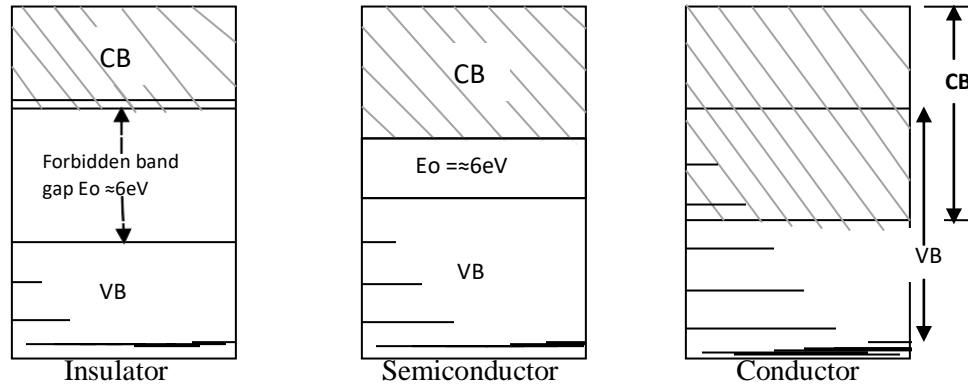

FIG:1.1 Energy band diagrams insulator, semiconductor and conductor
**Insulator:** An insulator is a material that offers a very low level (or negligible) of conductivity when voltage is applied. Eg: Paper, Mica, glass, quartz. Typical resistivity level of an insulator is of the order of  $10^{10}$  to  $10^{12}$   $\Omega$ -cm. The energy band structure of an insulator is shown in the fig.1.1. Band structure of a material defines the band of energy levels that an electron can occupy. Valance band is the range of electron energy where the electron remain bended too the atom and do not contribute to the electric current. Conduction bend is the range of electron energies higher than valance band where electrons are free to accelerate under the influence of external voltage source resulting in the flow of charge.
For an insulator, as shown in the fig.1.1 there is a large forbidden band gap of greater than 5Ev. Because of this large gap there a very few electrons in the CB and hence the conductivity of insulator is poor. Even an increase in temperature or applied electric field is insufficient to transfer electrons from VB to CB.
**Conductors:** A conductor is a material which supports a generous flow of charge when a voltage is applied across its terminals. i.e. it has very high conductivity. Eg: Copper, Aluminum, Silver, Gold. The resistivity of a conductor is in the order of  $10^{-4}$  and  $10^{-6} \Omega\text{-cm}$ . The Valance and conduction bands overlap (fig1.1) and there is no energy gap for the electrons to move from valance band to conduction band. This implies that there are free electrons in CB even at absolute zero temperature (0K). Therefore at room temperature when electric field is applied large current flows through the conductor.